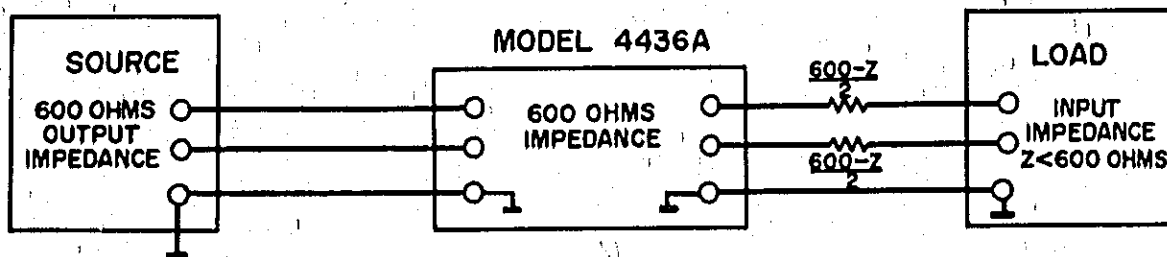

Figure 3-9. Simple Output Matching with Series Resistors
- a. When the impedance of the load is lower than that of the Model 4436A and the load is not affected by a mismatch, impedance match for the Model 4436A output can be obtained by inserting series resistors between 4436A output and load as shown in Figure 3-9. Resistor value should be half of the difference between the Model 4436A output impedance and the load impedance.